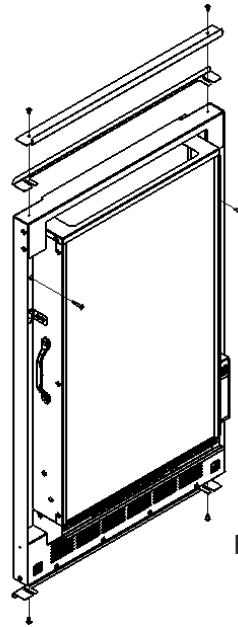

Figure 8
12. Place unit in position in the opening, push straight in and attach unit to studs using No. 10 fasteners. Attach supplied wall cover brackets to the top and the bottom of fireplace to cover the gap on the dry wall (Figure 8)